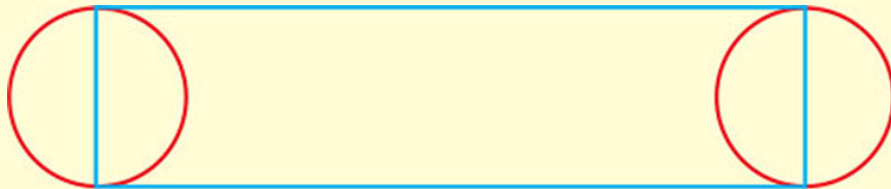

Fig. 5-22 To draw the slot in Cut2D, draw two circles (shown in red) and a rectangle (shown in blue), then join them using the Weld Selected Vectors tool.
- To draw the slot, draw a circle at each end, then draw a rectangle overlapping the two circles (Fig. 5-22).